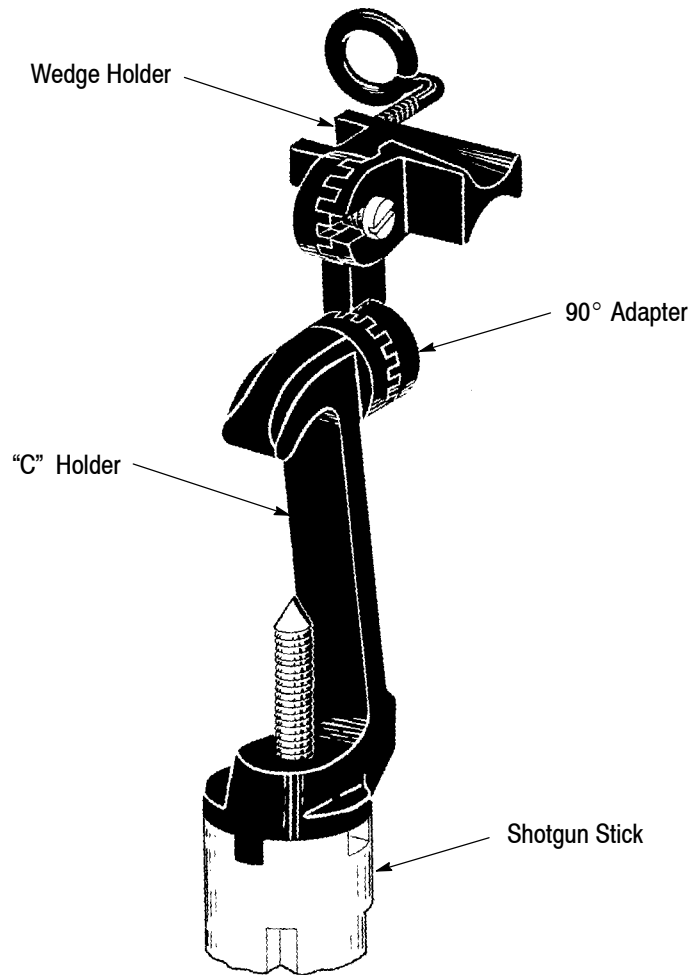

Figure 8
3. Assemble 90° adapter and “C” holder and wedge holder as shown in Figure 8.